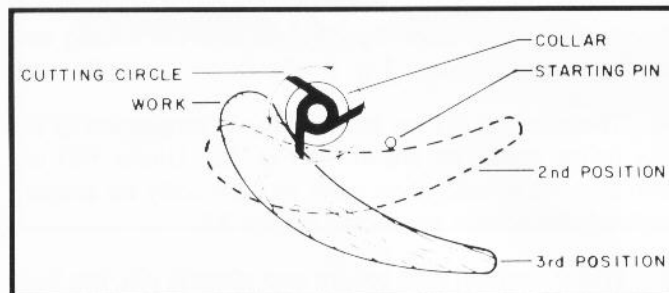

Fig. 38
3. After the cut has been started, the work is swung free of the starting pin and rides only against the collar as shown in the third position Fig. 38. ALWAYS FEED AGAINST THE ROTATION OF THE CUTTER.